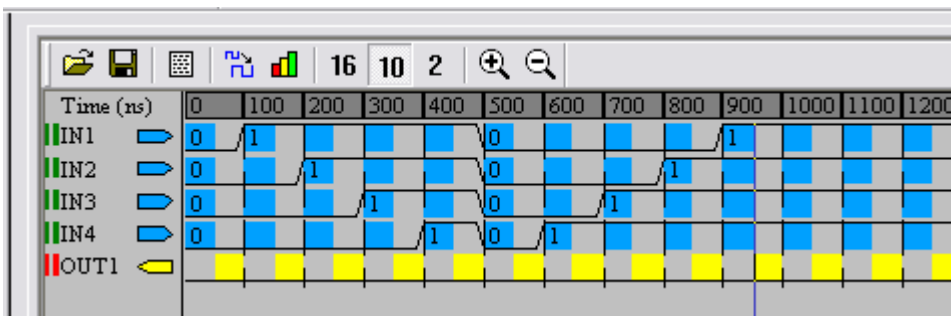

Figure 5. Determining the input sequence
5. Now you can enter your inputs to the ports that are shown in blue. To change the value of a signal, simply click on the blue square corresponding to the time interval you want. A sample input set is prepared for you in Figure 5.